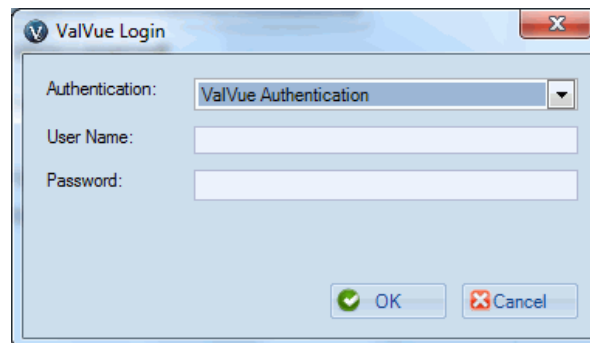

Figure 14 - ValVue Login
1. Select **Start > All Programs > Masoneilan > ValVue 3 > ValVue** and Figure 14 appears.